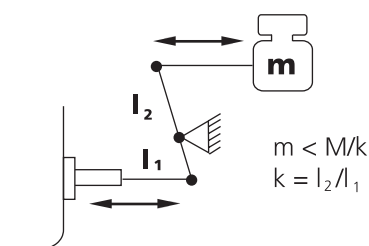

Figure 34
- If the interlocking mechanism is directly attached with the synchronizing shaft the moment of inertia of the attached mechanism shall not exceed  $4.3 \times 10^{-4} \text{ kg/m}^2$  ( $1.2 \times 10^{-4} \text{ kg/m}^2$  for ISM15\_LD\_1(55F) series). If both stub shafts of the synchronizing shaft are used, the sum of the attached moments of inertia shall not exceed  $4.3 \times 10^{-4} \text{ kgm}^2$  respectively  $1.2 \times 10^{-4} \text{ kgm}^2$  (Figure 34).